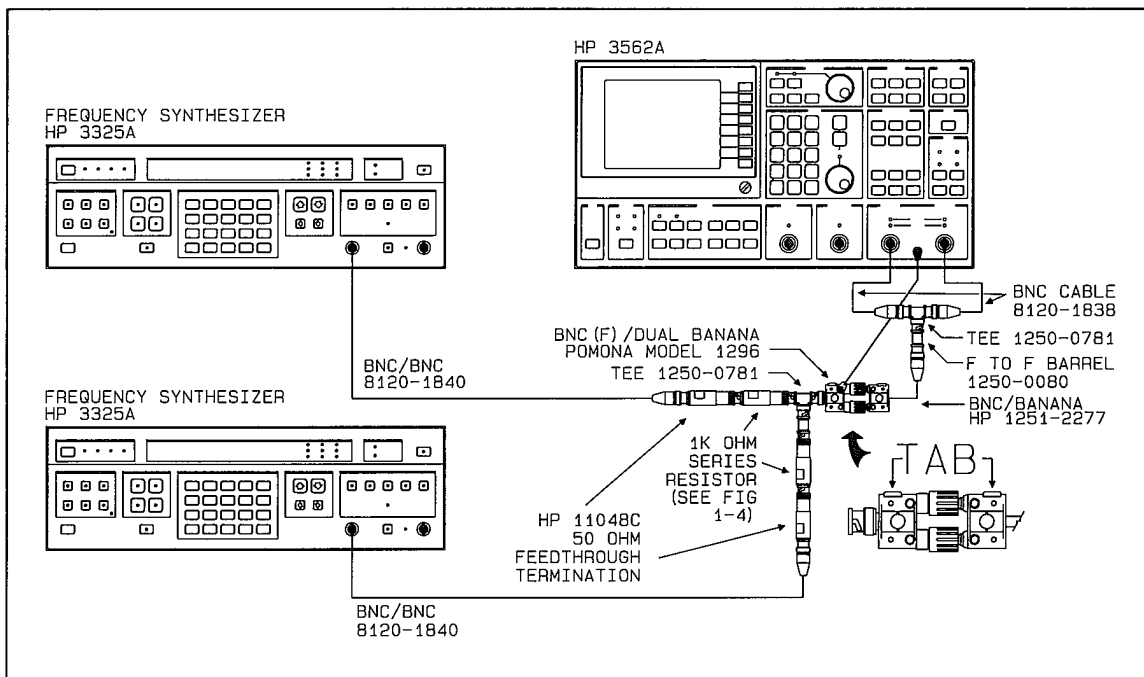

Figure 2-23 Intermodulation Distortion Test Setup #1
A. Connect the test instruments as shown in figure 2-23. Keep the connecting cables as short as possible. Refer to "Initial Equipment Setup," paragraph 2-20, for unspecified parameters.
- G. Connect the test instruments as shown in figure 2-23.